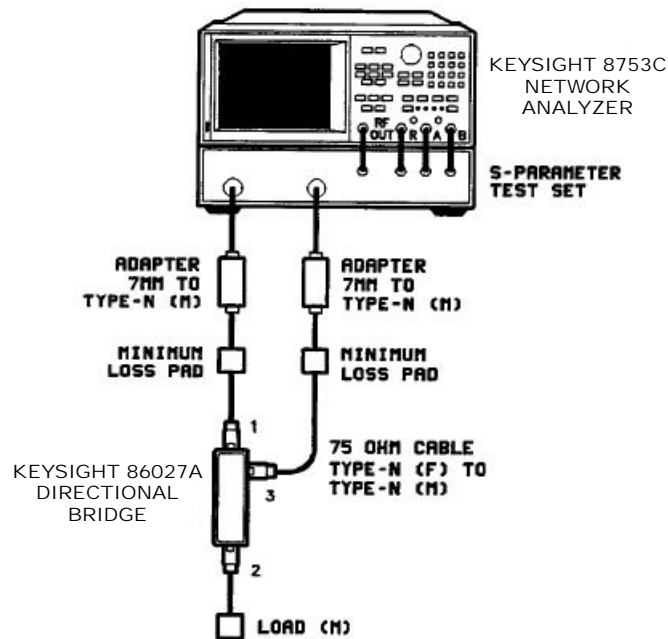

Figure 3-3 Equipment setup for coupling loss measurement
- 6 Connect the equipment as shown in Figure 3-3.